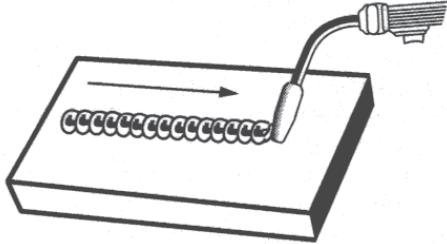

Figure 12. Stringer Bead
1. The STRINGER BEAD (Figure 12) is formed by traveling with the gun in a straight line while keeping the wire and nozzle centered over the weld joint. This is the easiest type of bead to make.